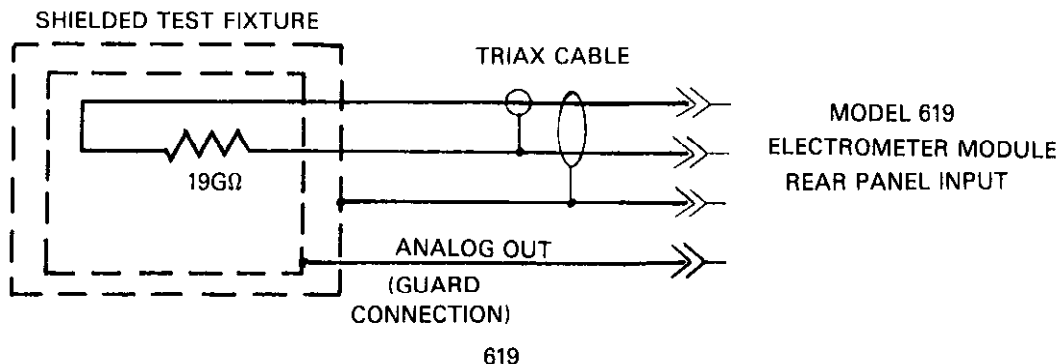

Figure 6-8. Range Calibration, 20GΩ
11. 20GΩ Range Calibration: Calibrate the 20GΩ range see Figure 6-8. Zero Check the Model 619 and uprange to the 20GΩ range. Connect the 19GΩ Calibration Resistor to the input of the Model 619, release the Zero Check, and adjust R655 for a display reading of 19.000 +9 to within ±15 counts.